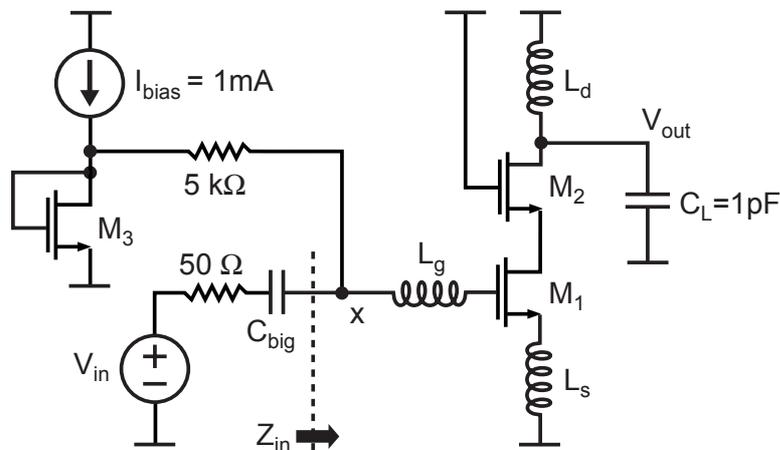

Figure 3: A high speed, tuned cascode amplifier.
3. This problem will focus on the design of the narrowband amplifier shown in Figure 3. Assume that all devices are the same size with width of 100 microns and length of 0.18 microns. For all hand calculations, ignore C_{gd} , r_o , backgate effects, and overlap for all transistors.